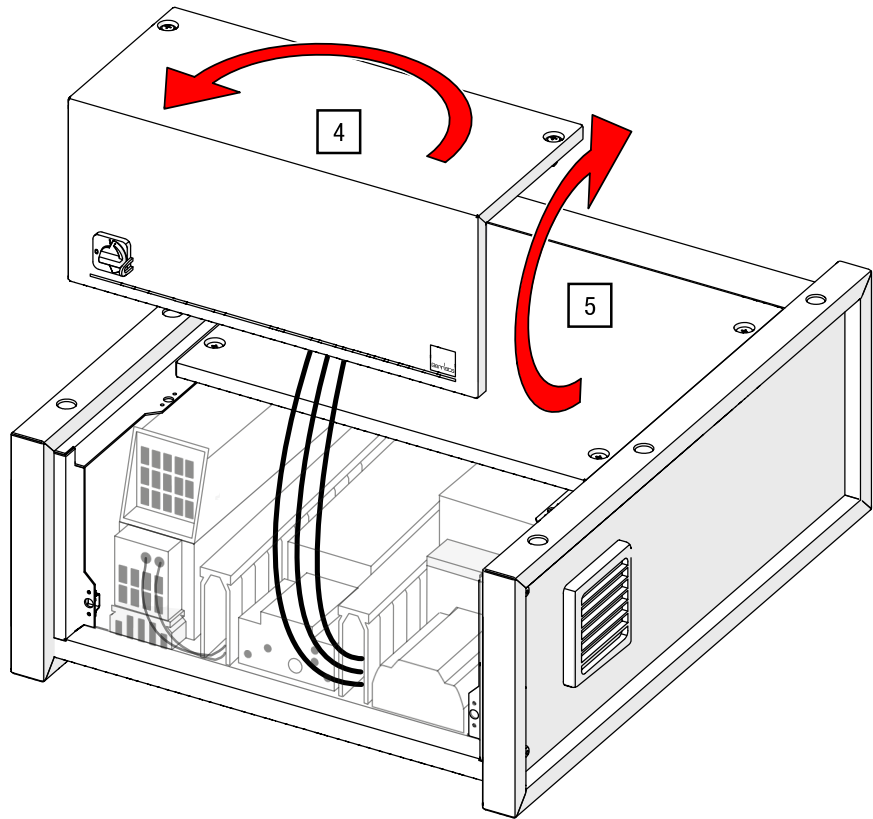
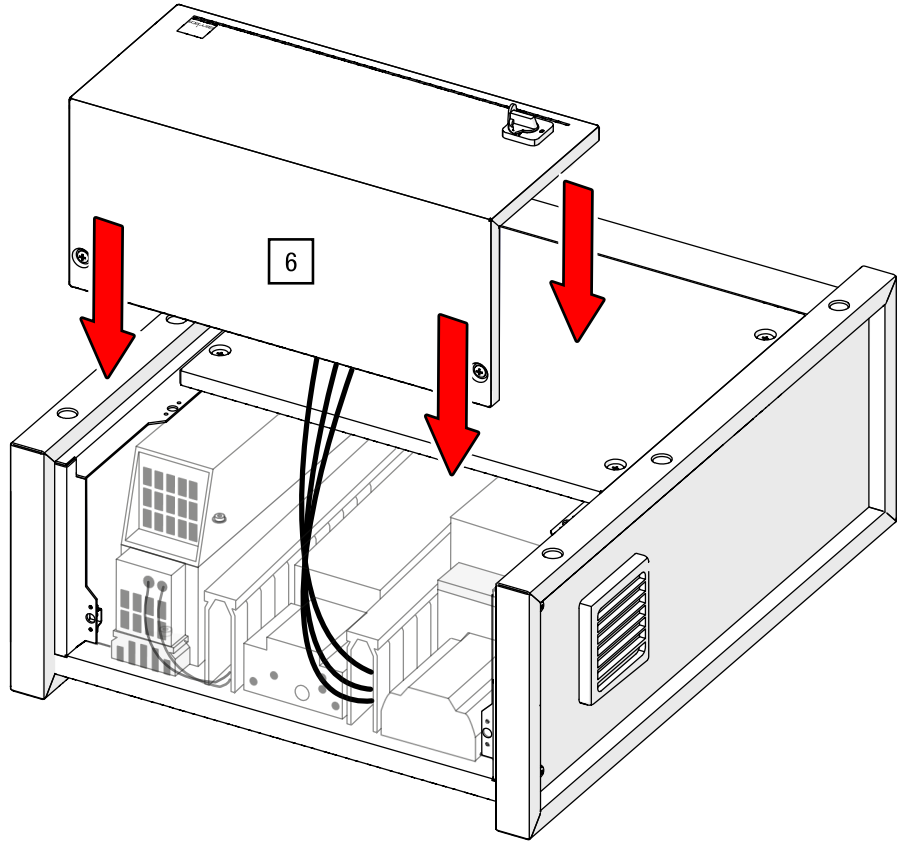

Fig. 30: Rotating the detached control panel (model may vary)
Fig. 31: Inserting the control panel (model may vary)
4. and 5. Rotate the control panel through 180° and tilt it by 90° to match the orientation shown in Fig. 31 (see Fig. 30).
6. Place the control panel back onto the enclosure (see Fig. 31).